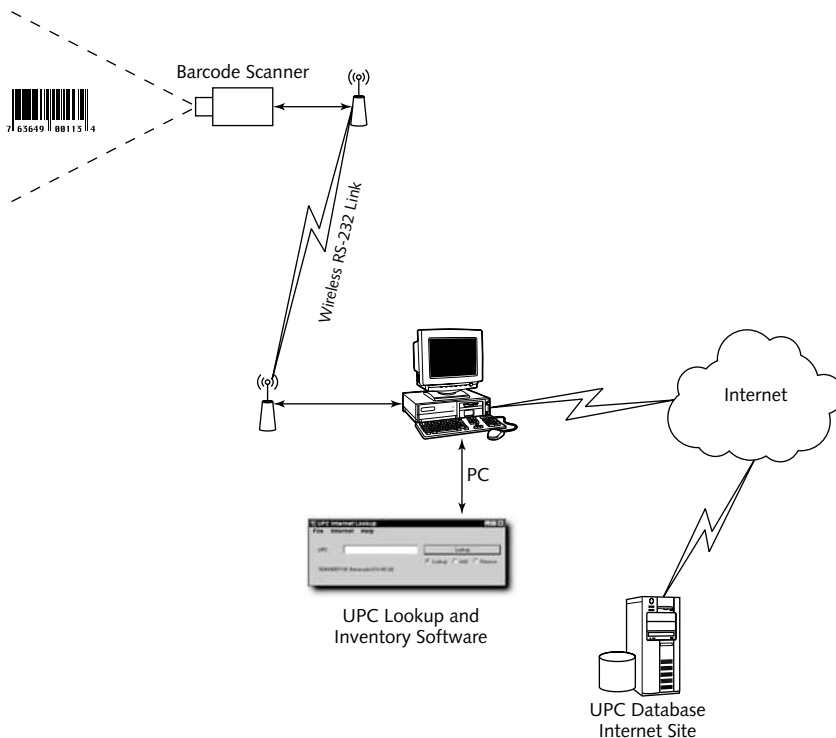

FIGURE 6-7: Extending the scanner with a wireless link
- You could run the software remotely on a desktop and use a long cable or wireless link to span the distance. We built sounds into the software so, with the volume high enough, you could hear if a scan was successful or if it failed. Chapter 2 (Wireless RS-232 Link) shows you how to build a wireless link you could use with a serial CueCat or other scanner using a serial interface; remember that the standard PS/2 keyboard port is just an RS-232 port itself, so you can use the wireless link there, too. Figure 6-7 shows how to modify the system — the wireless link literally extends the serial port cables, so neither the PC nor the Anything Inventory software should be the wiser when you’re done.